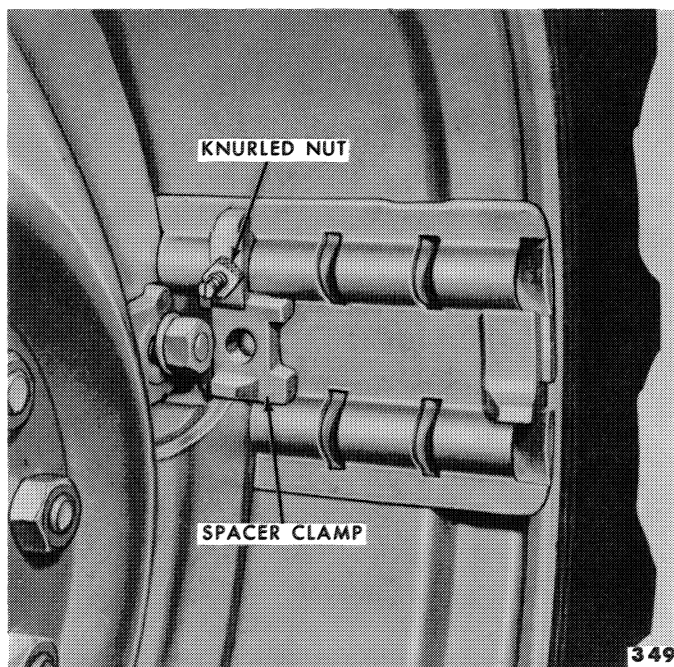

Figure 12—Wheel Disc Against Spacer Clamp
5. Move the wheel by engaging the transmission with the engine at idle speed. Brake the opposite wheel and let the tractor creep while the wheel disc is revolving, then disengage the transmission immediately when the wheel strikes the spacer clamp, Figure 12.